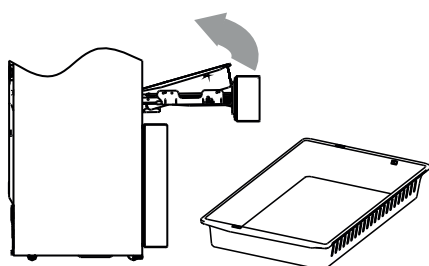

Figure 4
2) Lift the near end of the tray by grasping both sides, one in each hand. See Figure 4.